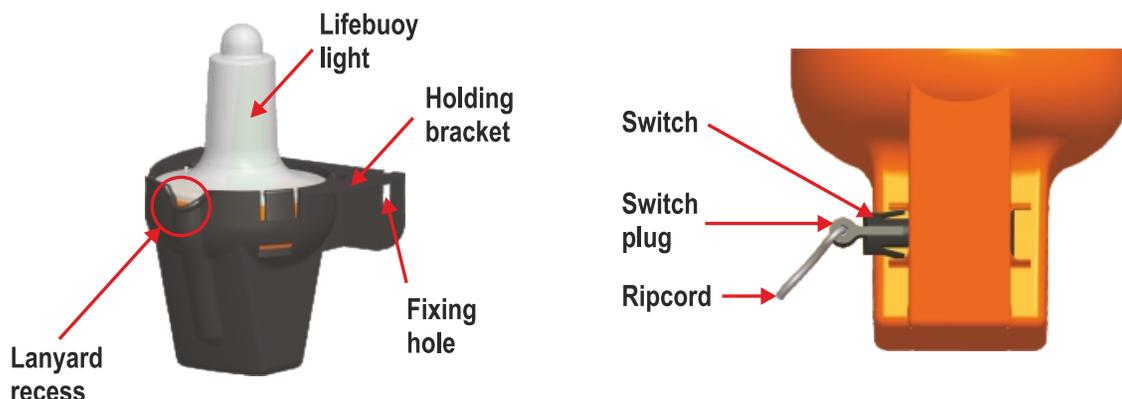
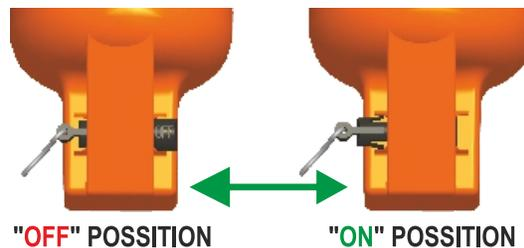

Fig 1: Parts Description
Fig 4: Check for efficient Operation
After installation of the holding bracket using one of the above ways, secure the lanyard to the lifebuoy ring (Fig 3). Then remove carefully the lifebuoy light from its holder base to ensure that the switch plug is fitted in the switch (Fig 1).
Push the switch to "ON" position and check that the light operated efficiently (Fig 4).
Afterwards ensure that the switch plug is fitted in the switch housing (Fig 1) and turn the switch in "OFF" position again. Fit the light into the bracket with the switch side to the back and the lanyard to the front (Fig 5).
WARNING: Ensure that the lanyard is placed in recess (Fig 1 & Fig 6). Any other way of installation might affect the proper release of the lifebuoy light. Refer to Part 4 - Inspection Process for proper installation.
The 71325 lifebuoy light is attached with a lanyard to a lifebuoy ring (Fig 3), which when thrown into the sea, pulls the lifebuoy light from its holding bracket and switches it "ON" automatically. During the deployment, the lifebuoy sweeps along the lifebuoy light from its holding bracket and a ripcord (Fig 1 & Fig 4) switches "ON" the light providing a flashing light of at least 2,0 Cd in all directions of the upper hemisphere for more than 2 hours and a average flashing frequency of 0,88Hz.
3. Manually push the switch to the ON position (Fig 4) and check that the light operates efficiently. If the light does not operate, it needs to be replaced.
4. Ensure that the switch plug is fitted in the switch housing and turn the switch to the OFF position again (Fig 1 & Fig 4).